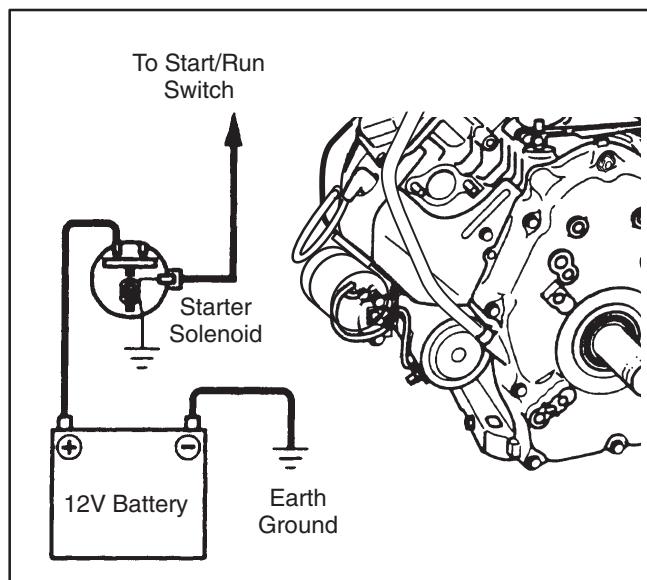

FIGURE 3-2. BATTERY WIRING
3. Connect wires from starter key switch to starter solenoid and ground. (Figure 3-2)